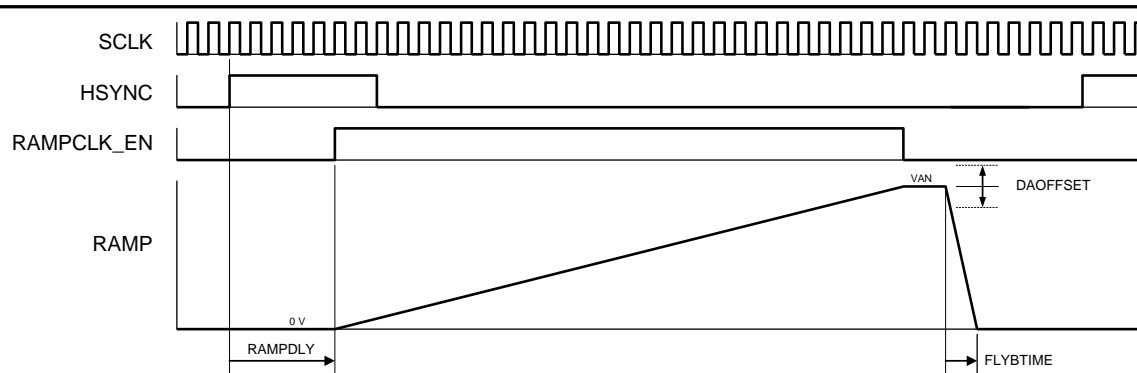

Figure 7 : Timing diagram for column data sampling
The 24-bit digital input port is comprised of three 8-bit data busses that make up the RGB data inputs. Separate synchronization signals (VSYNC and HSYNC) and the pixel clock (SCLK) are to be provided by the external video source. The data valid signal (DE) is used to signal the start of loading a row of data into the internal line memory. An active ENABLE signal is required for the Stereovision mode (inactive for all other modes, except Interlaced Video). The timing diagram for the input data bus is shown in Figure 7.